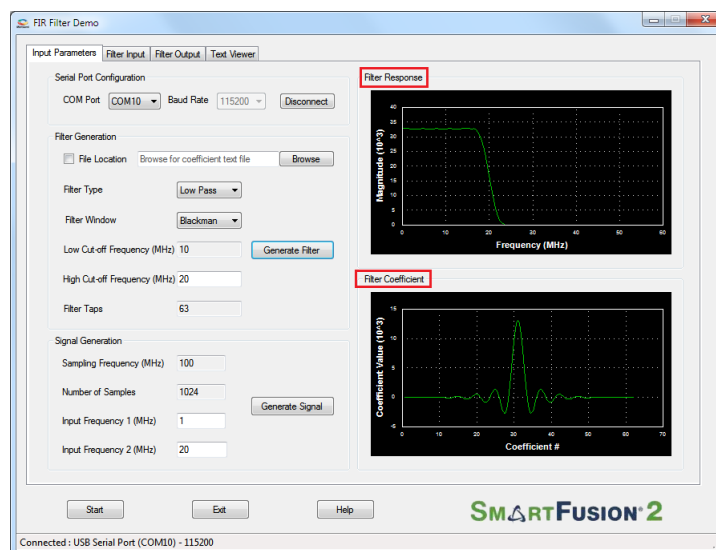

Figure 1-10 • Filter Response and Filter Coefficient Plot
5. After successful generation of the filter coefficients, filter response and the filter coefficient plots (graphs) are displayed as shown in Figure 1-10.